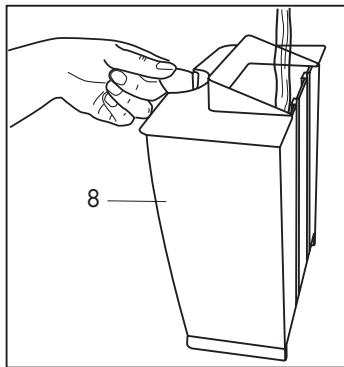

Fig. 2
- Fill the tank with water (max. 1,5 litres). **(Fig.2)**